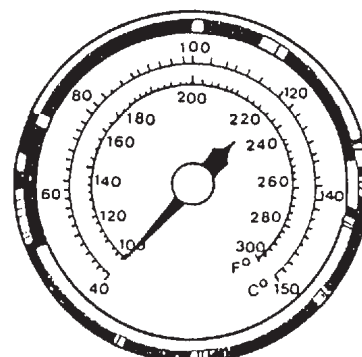

Fig. 3 Thermometer
5. **Thermometer**—Use this with your temperature selection. Note what temperature is too hot or too cold. (figure 3 on page 26.)